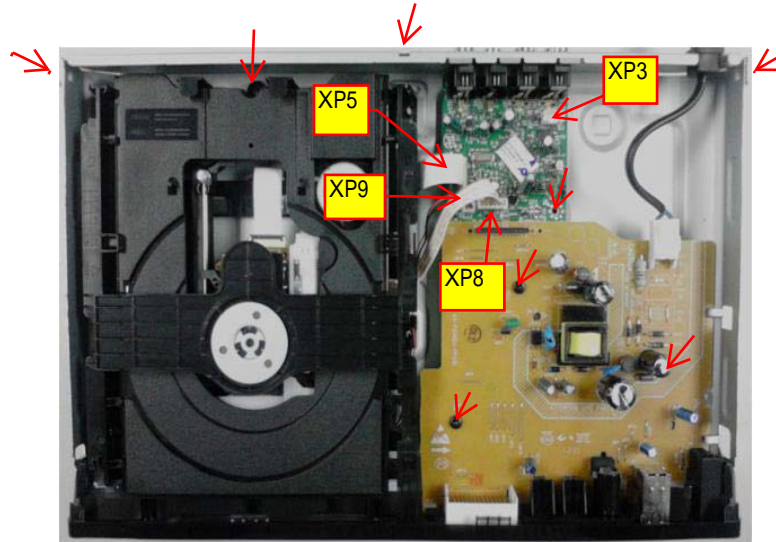

Figure 5
Step5: Dismantling Loader, disconnect the 3 connectors (XP5, XP8, XP9) aiming in the below figure, and remove 1 screw that connects the loader and the bottom cabinet. (Figure 5)
Step6: Dismantling Power & Front Control Board, remove 3 screws on the board. (Figure 5)
Step7: Dismantling Main Board. Remove 1 screw on the board. (Figure 5)